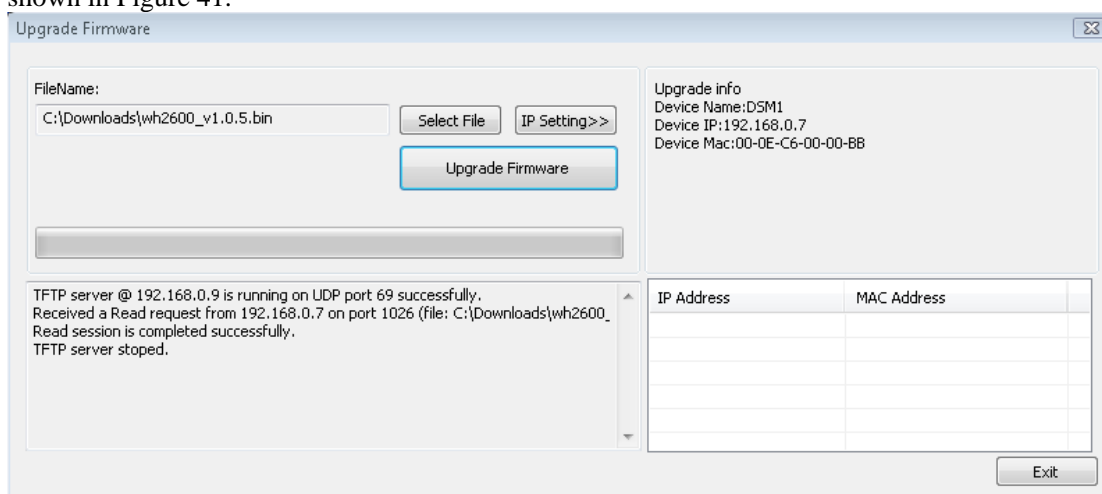

Figure 41
6. Once the firmware upgrade is complete, the dialog box will display **Read session is completed successfully**, as shown in Figure 41.